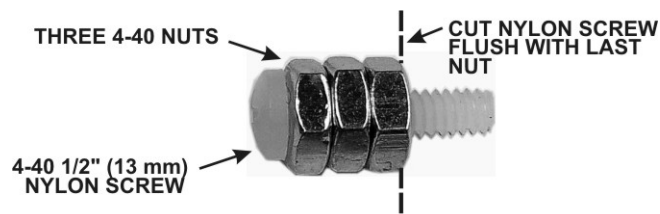
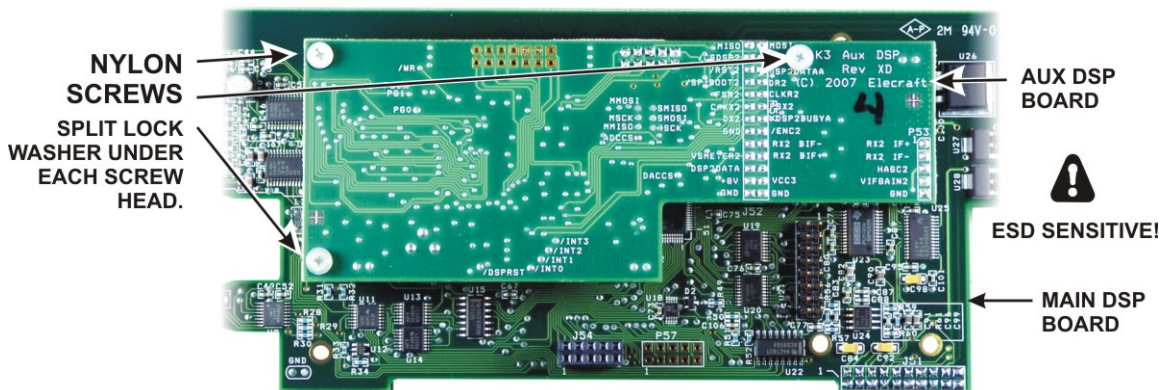

Figure 51. Preparing the Nylon Screw.
Figure 53. Mating the Main and Auxiliary DSP Boards.
- Screw three 4-40 nuts onto the 1/2" (13 mm) 4-40 nylon screw as shown in Figure 51.
□ Plug the aux DSP board into the main DSP board by mating P52 and P53 on the aux DSP board (at the narrow end) with J52 and J53 on the main DSP board. When fully seated, the connectors should be fully engaged so that the pins do not show and the aux DSP board should rest against the top of the standoffs with the holes in the board aligned for the screws (See Figure 53). Note that a two-row 10-pin connector at the top of the aux DSP board does not mate with anything on the main DSP board. That is normal. Attach the boards with three 4-40 1/4" (6.4 mm) *nylon* screws or the nylon screws you trimmed to length earlier (see Figure 51). Place a split lock washer under each screw head. Do not place washers between the standoff and the pc board. **Be careful tightening the nylon screws. They are easily stripped!**